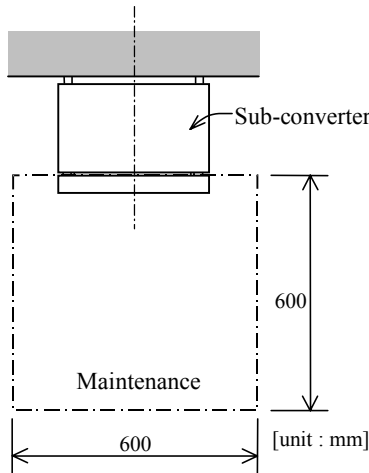

Figure 4. Maintenance space
- (1) Install this unit in an environment free from vibration and corrosive gases and in a place where onsite maintenance is accessible with ease.
- (2) Provide a maintenance space to the front of the unit. (Refer to Figure 4.)
- (3) Provide a sunshade for the unit if direct sunlight is unavoidable.
- (4) It is recommended that this unit be installed about 1.5m (5 feet) (the height of normal windows) above the ground.
- (5) This unit cannot be installed in an environment where there is a possibility that flammable or explosive gases may leak.